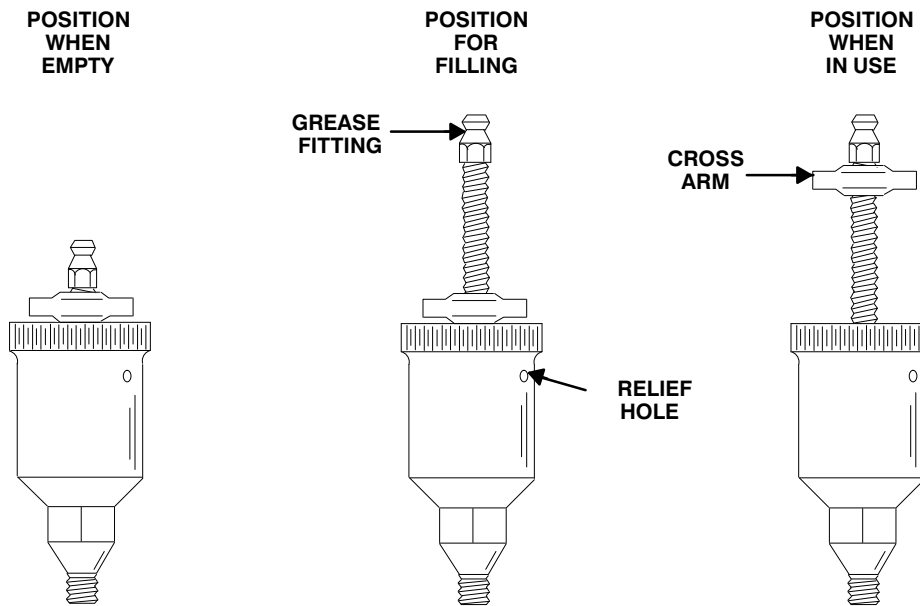

Figure 7. Automatic Lubricating Grease Cup
Fill the grease cup (39) through the grease fitting with No. 2 lithium base grease until grease escapes from the relief hole. Turn the grease cup arm counterclockwise until it is at the top of the stem; this will release the spring to apply grease to the seal (see Figure 7).